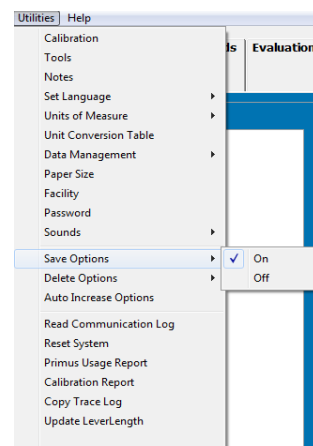

Figure 5k
- c. Click the “Utilities” menu in the menu bar at the top left of your screen (Figure 5k).